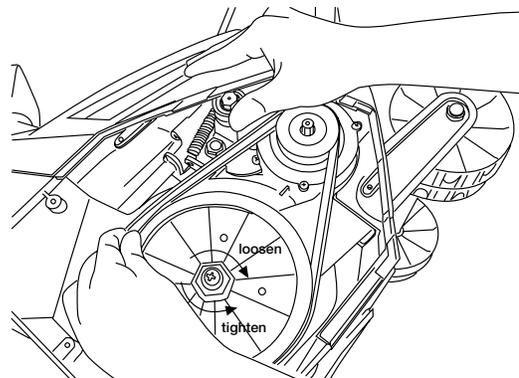

Figure 28
- Lift the belt tension and roll the worn belt off the big pulley from upside (Fig. 28).
Note: To replace the pulley, remove the outer nut, the left handed nut in the opposite direction (clockwise to loosen and counterclockwise to tighten) (Fig.28).